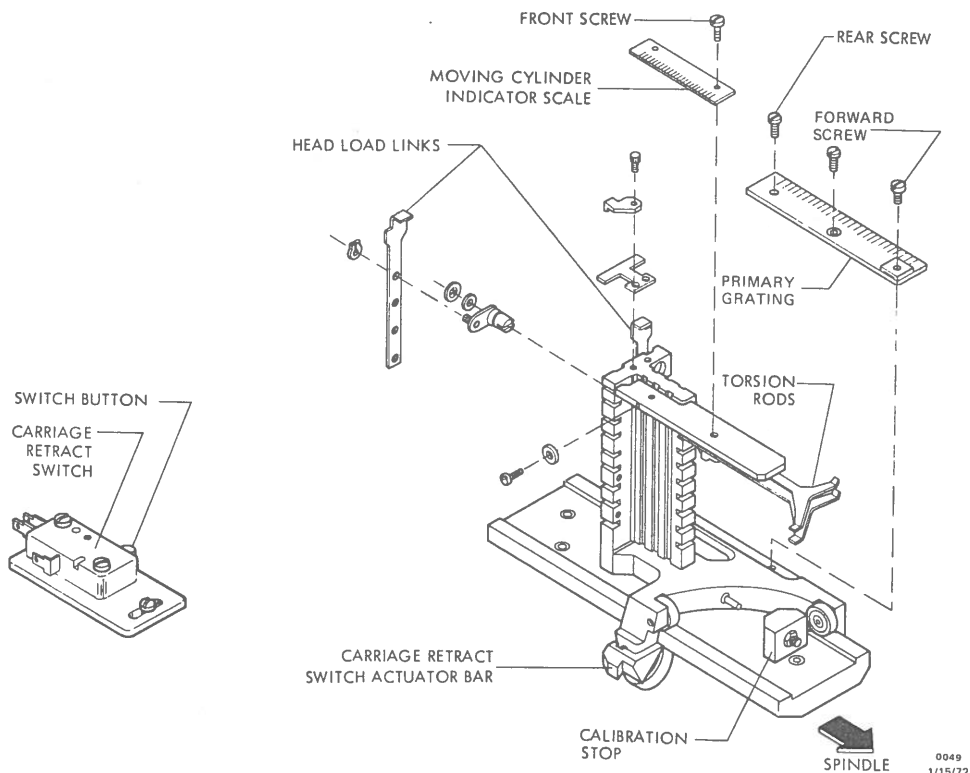

Figure 6-4. Carriage Assembly
3. **Cylinder Position:** The cylinder positioning is checked by placing a 0.038-inch shim between the carriage and the calibration stop (figure 6-4). The shim is held in place by exerting a slight hand pressure against the carriage. Under these conditions, the last velocity line on the primary grating must fall within (not necessarily centered in) the index line on the secondary grating (figure 4-6).
2. Place 0.038-inch feeler gauge between carriage and calibration stop (figure 6-4). Hold in place with slight hand pressure on carriage.
#### 6.5 CARRIAGE RETRACT SWITCH ADJUSTMENT (Figure 6-4)